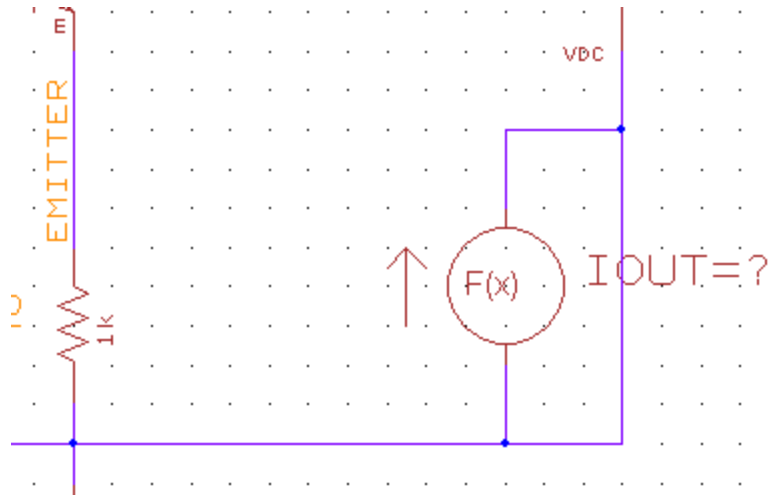

Figure 2-39: The current_gen part placed and connected
- c. Place it in the lower right of the design, as shown in Figure 2-39, and right-click **End Mode**.
59. Wire the **current_gen** part, as shown in Figure 2-39.